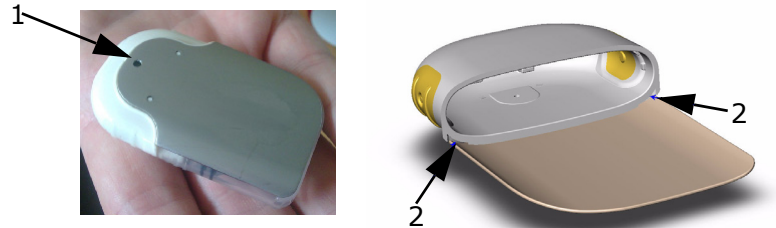

Figure 1-1 Pump Base Protective Shield and Drainage Areas
- Do not attempt to insert sharp objects into the hole (#1 in Figure 1-1) in the Pump Base's protective shield. Inserting objects into this hole can adversely affect its water-resistance.
- Make sure that dust/dirt do not accumulate in the hole (#1 in Figure 1-1) nor in the drainage areas of the pump (#2 in Figure 1-1). This can result in decreased battery voltage.